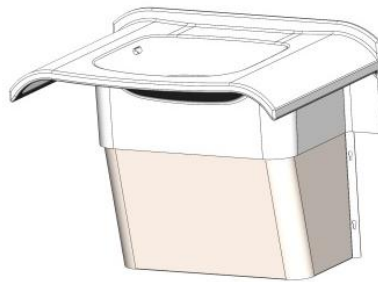

Figure 6
- b. Make sure that the skirt is tucked properly inside the front apron of the countertop. The finished installation should look like figure 6.